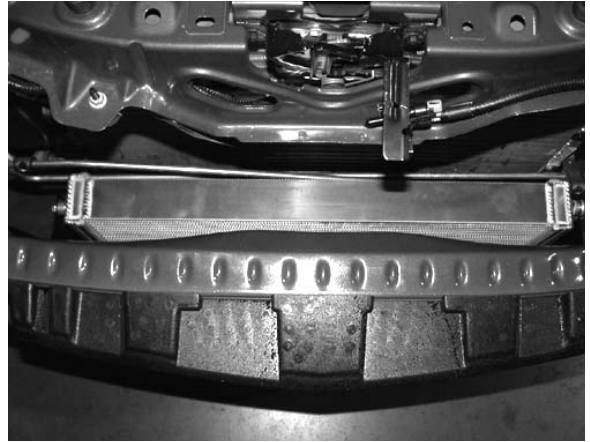

Fig. 8B-e
8. Attach the supplied short 90° hose (7U030-065) to the top port on the CAC cooler as shown. (See *Fig. 8B-f*.)